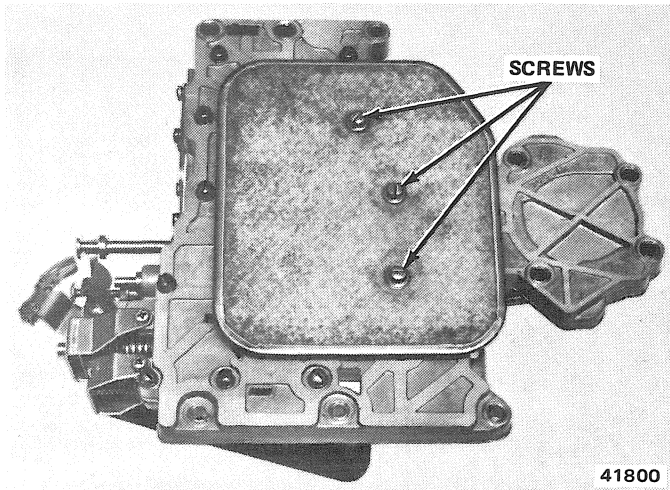

Fig. 2C-42 Oil Filter Removal
- (4) Slide lockup module oil tube out of valve body and remove tube and module as an assembly.
- (5) Remove end plate from module.
- (6) Remove lockup valve and spring.
- (7) Remove fail-safe valve and spring.
- (8) Remove upper and lower screws from spring retainer and adjustment screw bracket (fig. 2C-44). Hold spring retainer firmly against spring force while removing last screw.
(9) Remove spring retainer, line and throttle pressure adjusting screws. Do not disturb screw settings. Remove line pressure and torque converter valve regulator springs. Tag springs for assembly reference.
- (10) Remove line pressure regulator and torque converter control valves (fig. 2C-44).
(11) Remove transfer plate assembly retaining screws and remove transfer plate assembly.
(12) Remove screws attaching separator plate to transfer plate and separate these parts (fig. 2C-45).
(13) Remove rear clutch check ball from transfer plate and remove pressure regulator valve screen from separator plate.
(14) Remove check balls and spring from valve body (fig. 2C-46). Tag spring for assembly identification.
(15) Turn valve body over and remove shuttle valve cover plate (fig. 2C-47).
(16) Remove governor plug end plate (fig. 2C-48), shuttle valve throttle plug and spring, and 1-2 and 2-3 shift valve governor plugs.
(17) Remove shuttle valve E-clip, shuttle valve secondary spring, spring guides, and shuttle valve.